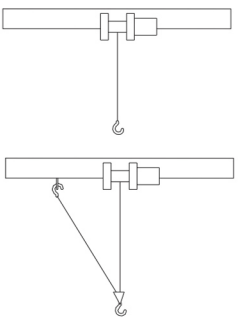

Figure 1
- b. DO NOT OVERLOAD. Be sure that any item to be moved falls within the maximum line pull rating of the winch. The use of a pulley block is recommended to double line the wire rope and reduce the load on the winch, on the rope (steel or synthetic), on the motor and on the battery. Where used, the pulley block should be rated to a minimum of twice the winch's line pull rating. SEE FIGURE 1.